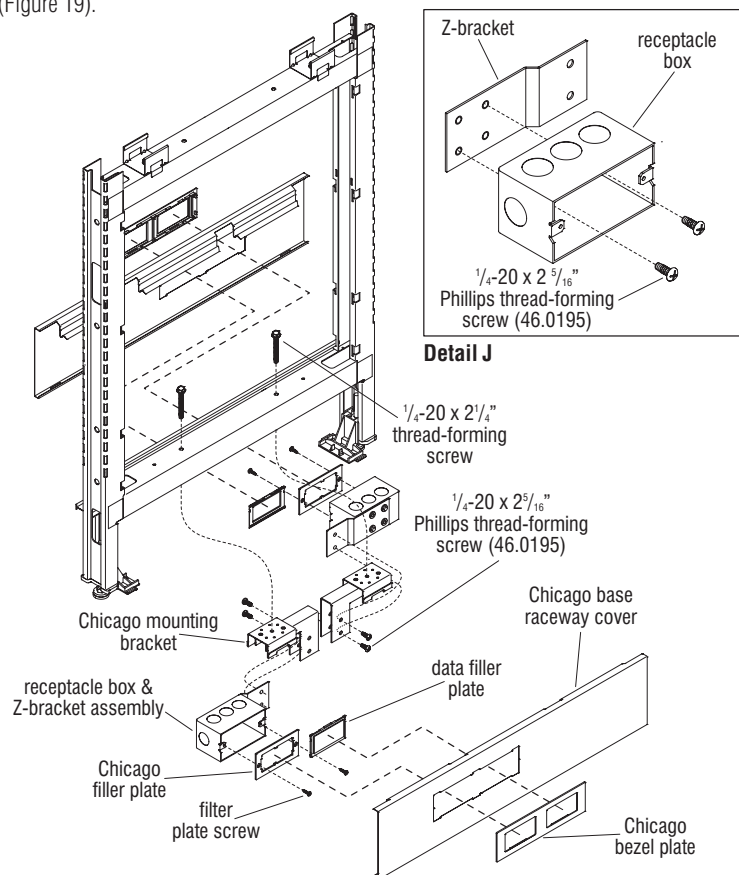

Figure 19 - Chicago Hardwire - Base Power Infeed - 24" & 30" Panel Width
2. Using two  $\frac{1}{4}$ -20 x  $\frac{5}{16}$ " Phillips thread-forming screws, attach a Chicago mounting bracket to each receptacle box & Z-bracket assembly as illustrated. Orient the parts for assembly such that the screw goes through the Chicago bracket and threads into the Z-bracket (Figure 19).
Chicago mounting brackets (with receptacle & Z-bracket attached) under the holes in the lower panel frame rail and secure the Chicago mounting brackets to the frame rail using a  $\frac{1}{4}$ -20 x  $2\frac{1}{4}$ " thread-forming screw (Figure 19).
5. Place a Chicago filler plate over the receptacle box as illustrated and secure with two filler plate screws (Figure 19).
6. Install Chicago base raceway covers in the same manner as standard Unite. Chicago base raceway covers are different than standard as the cut-outs are in unique locations for this application (Figure 19).
7. Snap the Chicago bezel plate into the Chicago base raceway cover. Chicago bezel plates are different than standard as they have the  $\frac{1}{2}$ " deep snap tabs removed. Snap the data filler plates into the Chicago bezel plates if no data cables are used at that location. The data port accepts modular furniture data port covers or data jacks (Figure 19).